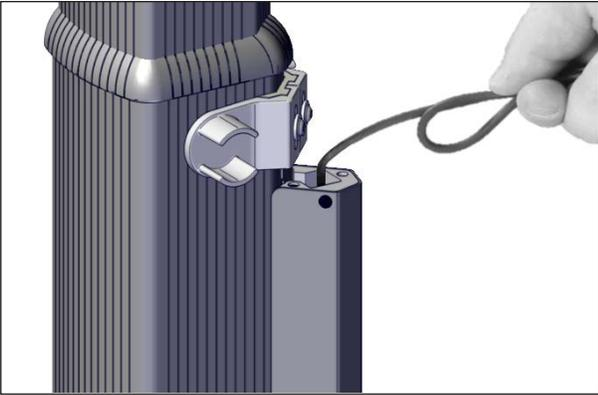

FIGURE 69: WIRE INSERTION INTO THE WIRE GUARD
3. While still holding the loop, thread the wire in the wire guard. All of the wire loop must be threaded into the wire guard, see Figure 69.